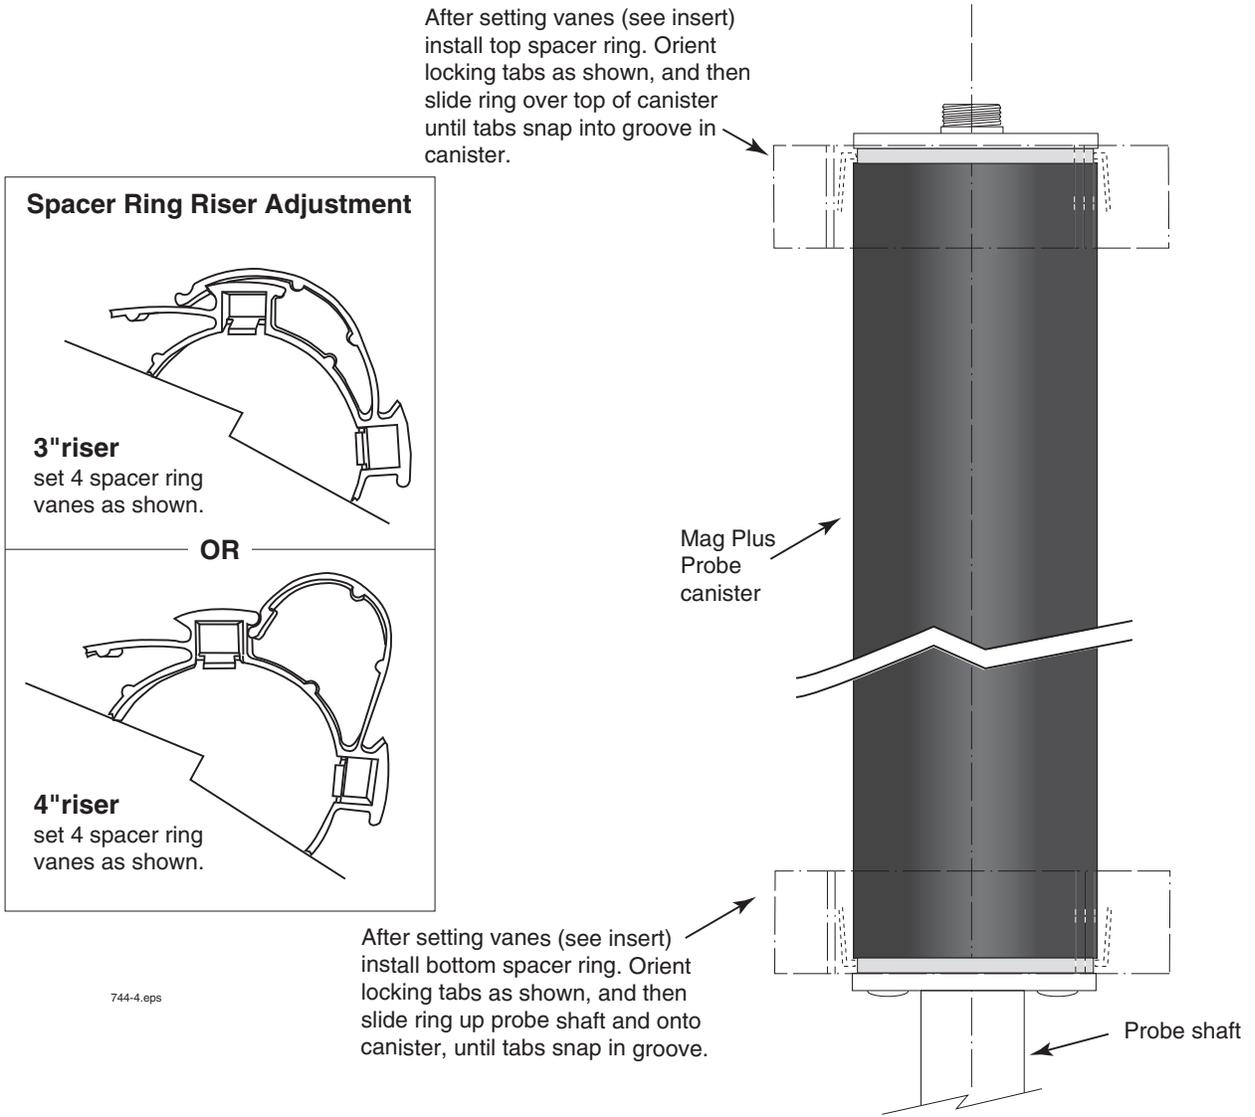

Figure 10. Installing Mag Plus Probe Canister Spacer Rings
2. Set the spacer vanes for a 3- or 4-inch riser (see Figure 10) as required. Install the two spacer rings onto the Mag Plus probe canister as shown in the figure below. Note: you must slide the bottom spacer up the Mag Plus probe shaft and onto the lower end of the canister.